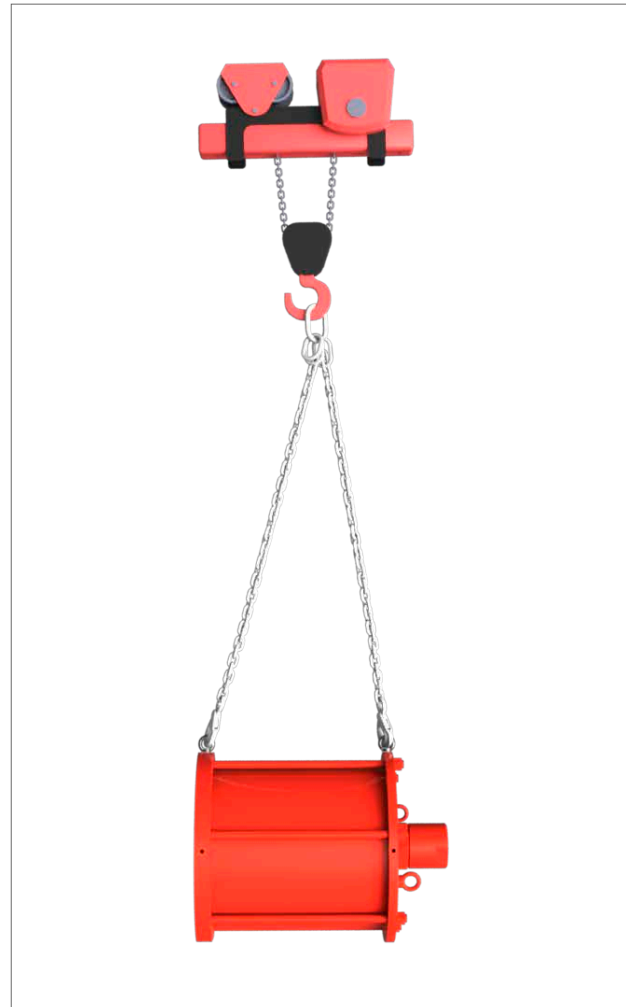

Fig 7.3 Horizontal lifting
- Hook a double chain sling on the lifting lugs as shown in Fig 7.3